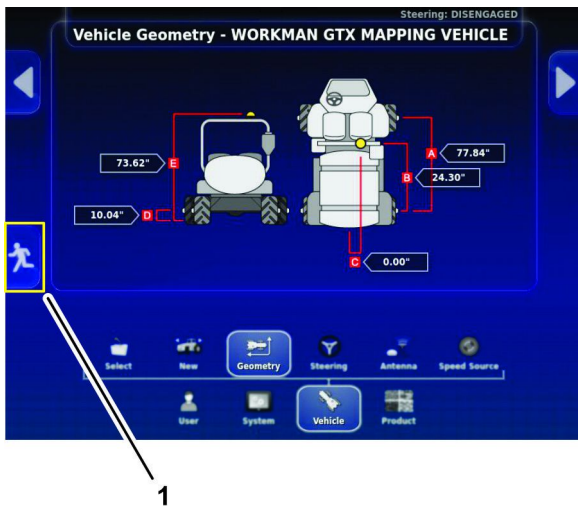

Figure 194
1. Satellite receiver and ground icon (E)
6. Press the EXIT SETUP icon (Figure 194).